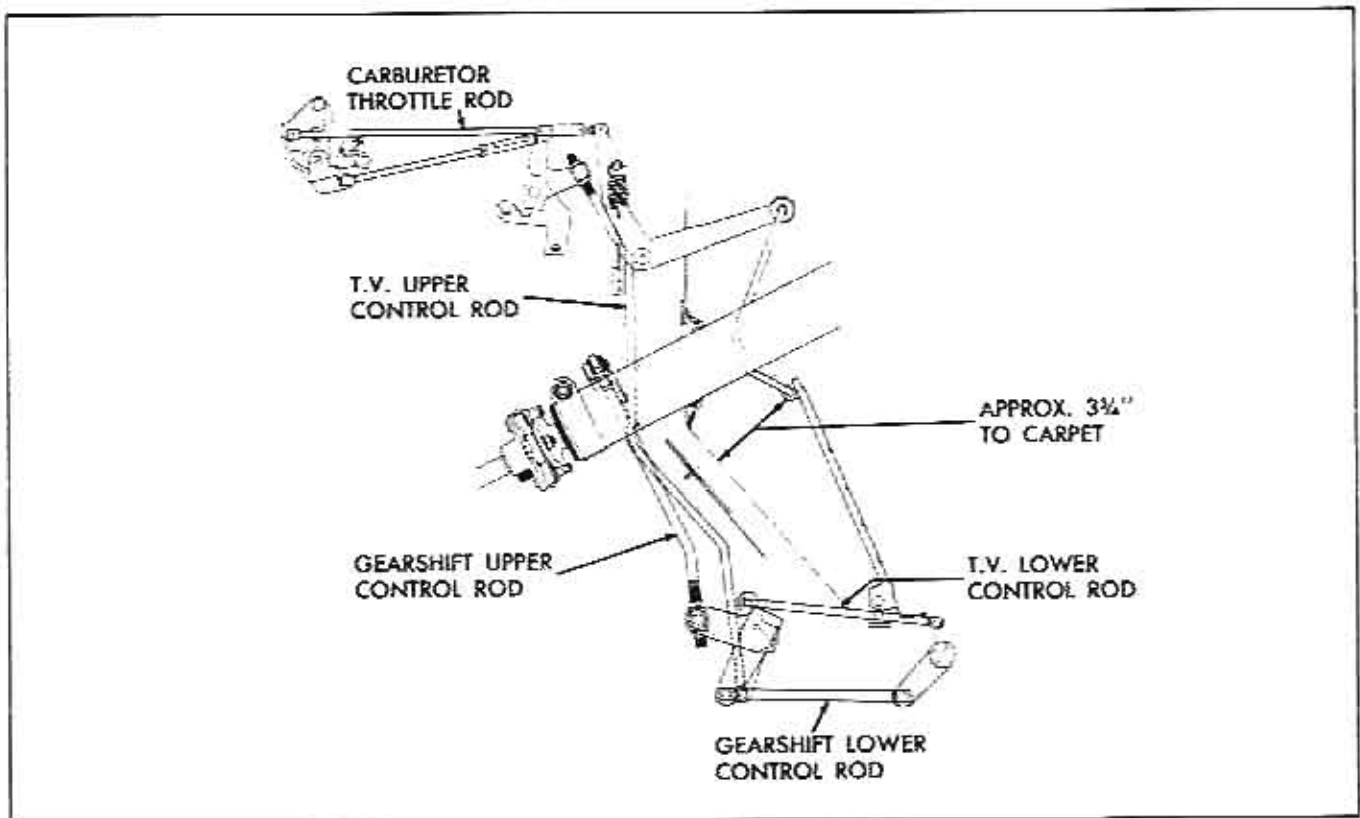

Fig. 42 Accelerator Linkage
9. Adjust carburetor throttle rod to obtain 4.55" clearance from underside of attaching boss on pedal to body toe pan as shown in Fig. 42. (App. $3\frac{3}{4}$ " to carpet).